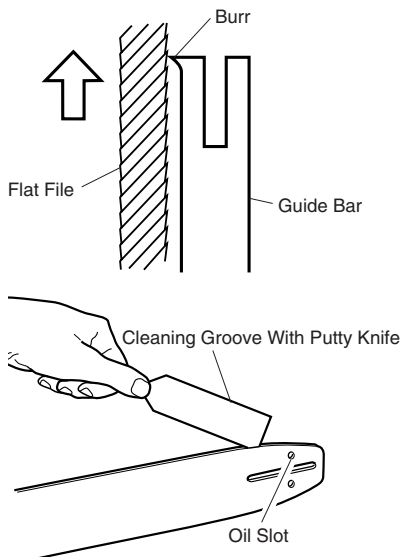

Figure 19 - Guide Bar Maintenance
2. Remove sawdust from guide bar groove periodically. Use putty knife or wire (see Figure 19).